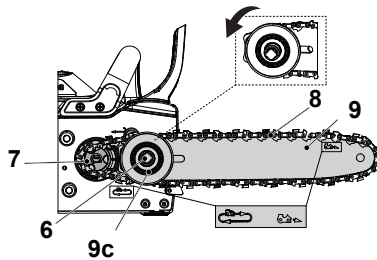

Fig. 3
4. Rotate the turning wheel (9c) anticlockwise to slide it to the left to the end of slot. Align the saw chain (8) and guide bar (9) assembly with the drive sprocket (7) and the mounting bolt (6). Lay the saw chain (8) around the drive sprocket (7) and then lower the guide bar (9) to install it to the mounting bolt (6) (Fig. 3).